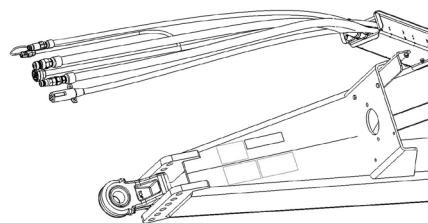

Figure 13
Route all hoses and wiring through hose support (Figure 13). Avoid entanglement of hoses and wiring with the PTO driveline, hitch, or tongue. Damage to equipment can occur if hoses and wires are not routed correctly.
7. Make sure all hoses and wires run through the hose support to remain clear of PTO driveline. If needed, add additional clamps. (Figure 13)